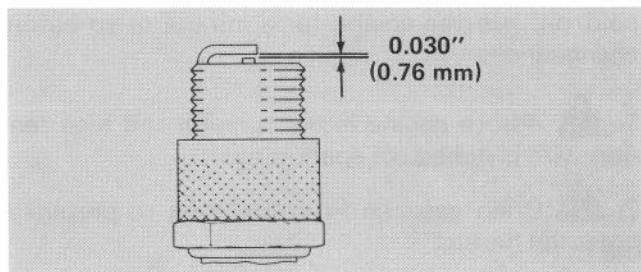

Figure 21
3. Set air gap between electrodes at 0.030 of an inch (0.76 mm) (Fig. 21). Install the correctly gapped spark plug with gasket seal and tighten plug to 15 ft-lb (20.4 N·m). If torque wrench is not used, tighten plug firmly.